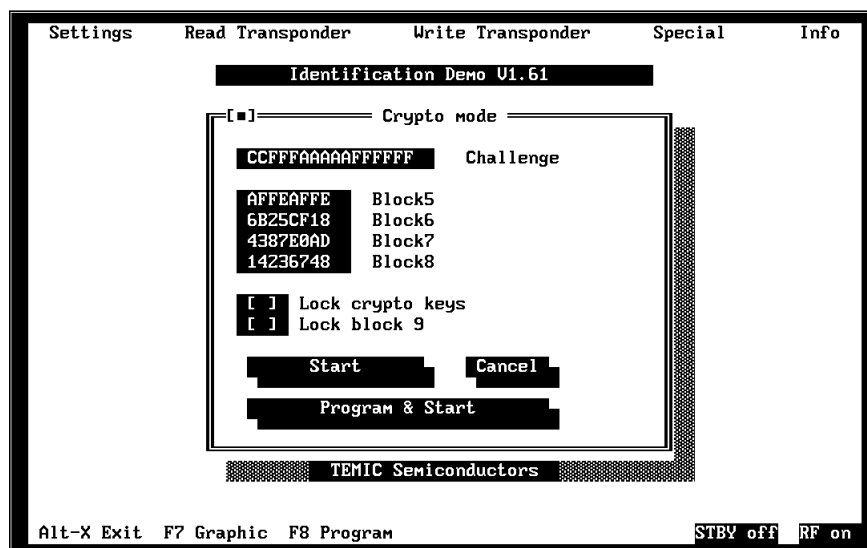

Figure 14. Crypto-mode input box
1. Type in the data content of blocks 5–8 in the dialog box crypto mode (figure 14) and then write the data into the transponder (Program & Start). This dialog box is reached through the menu “Write Transponder...Crypto mode”. Now, the old contents of the transponder have been overwritten by the data that has been typed in the demo software by the user.
The menu item crypto mode starts the actual authentication procedure. The software reads the ASCII files key.dat and challeng.dat to obtain the initial values of the input for the algorithm. With "Start" or "Program & Start", the challenge is sent to the transponder. The computation of the valid result is carried out in parallel in the PC and the hardware of the 5560 transponder. During the computation of the response, the transponder sends out the checksum of the challenge. This checksum is also computed by the demo software. Once computation of the response is finished, the transponder transmits the response in a loop, separated by a terminator. The demo kit synchronizes for this terminator and reads the response. Finally, the response and the checksum calculated by the software are compared with the actually received data. If the result for the checksum and for the response is identical, authentication was successful. In this case, the following window (figure 14) is the output.